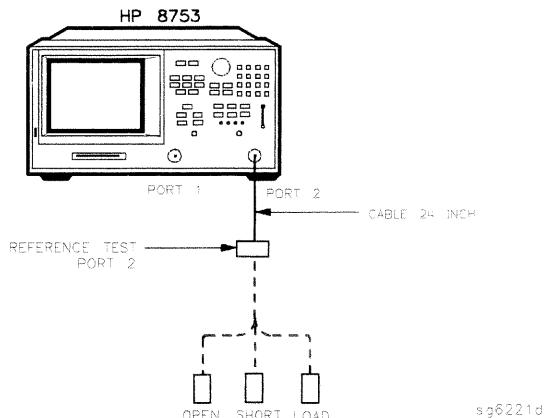

Figure 2-41. S22 1-Port Cal Test Setup
17. Connect the equipment as shown in Figure 2-41.
19. At the prompt, connect an open to reference test port 2, as shown in Figure 2-41.